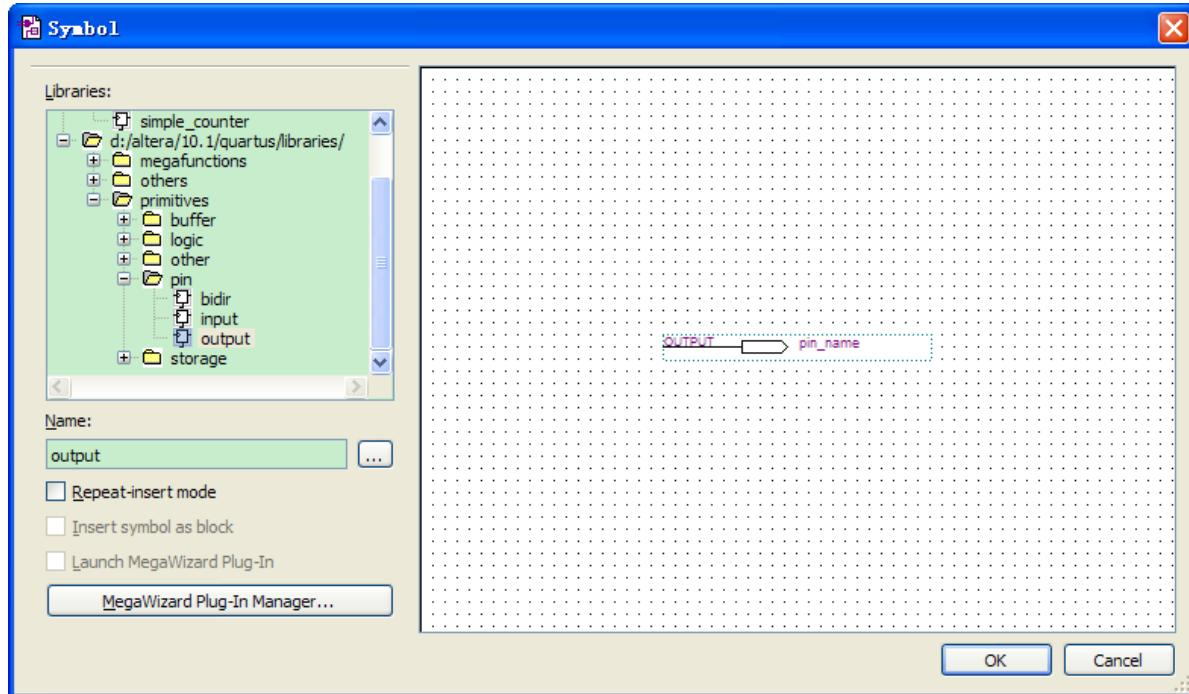

Figure 6-38 Choose output pin
17. Under Libraries, select **quartus/libraries > primitives > pin >output**, as shown in **Figure 6-38**.